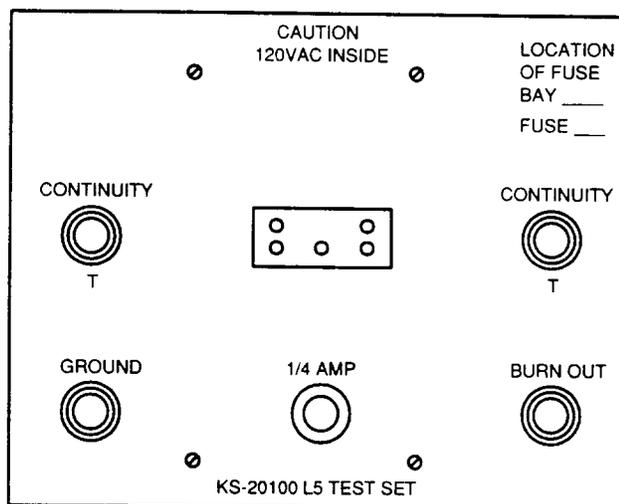
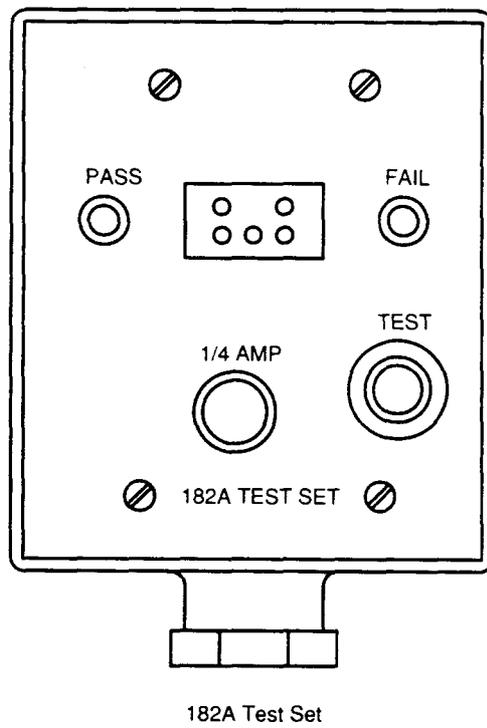

Figure 36. KS-20100, L5 Test Set
Figure 37. 182A Test Set
9.04 Before installing the 3- or 4-type protector units onto the connector, each unit may be tested. The KS-20100, L5 test set (Figure 36) is used to test for the presence or absence of tip and ring continuity and ground and also provides a burnout feature to clear protector units shorted by carbon or dust particles. The 182A test set (Figure 37) is used to test the minibridge lifter protector units for tip and ring continuity and for shorted protector blocks. It also tests the function of the 410A switch contained in the protector unit. See AT&T 201-208-100 for the test procedures.